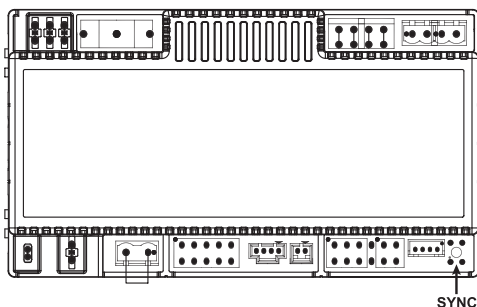

FIG 1: IFC BOARD
5. Wait five (5) minutes to clear out any gas. Then smell for gas, including near the floor. If you smell gas, **STOP!** Follow "B" in the safety information above. If you don't smell gas, go to the next step.
6. You must now synchronize the wall mount / remote with the IFC board (for 1st time use) by pressing the SYNC button **FIG 1** followed by pressing the "ON" button on the wall mount / remote.
1. Press the "OFF" button on the wall mount / remote.(**FIG 1**)